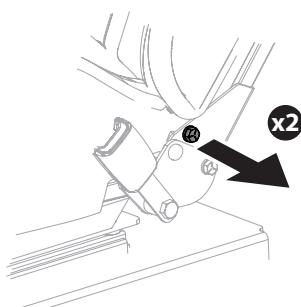

Figure 9
- Remove the two screws (one right side, one left side) securing seat in shipping position (Figure 9).